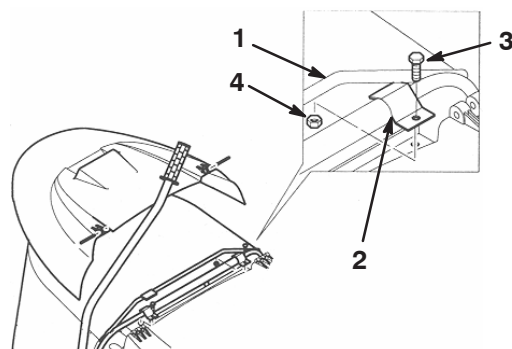

Figure 8
4. Attach the grass collector to the rear of the tractor with 2 Z-brackets, bolts (M6 x 16.2 mm), and nuts (M6) (Fig. 8).